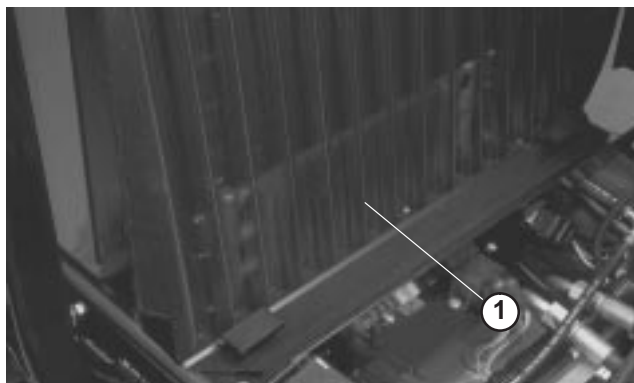

Figure 52
2. Loosen clamps and pull up on screen to slide it out of mounting tracks (Fig. 52). Clean screen thoroughly with water or compressed air.